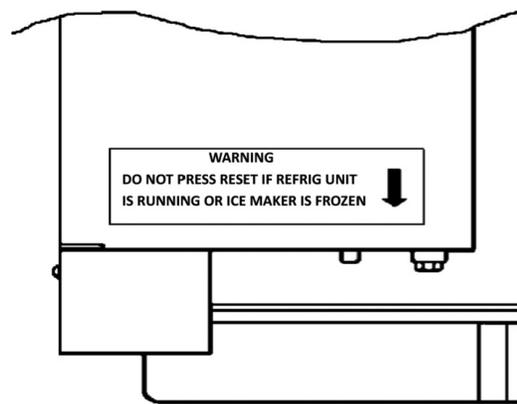

Figure 11. Gear Motor Thermal Overload
2. Gear motor thermal overload, manual reset type (red button on motor). See Figure 11.